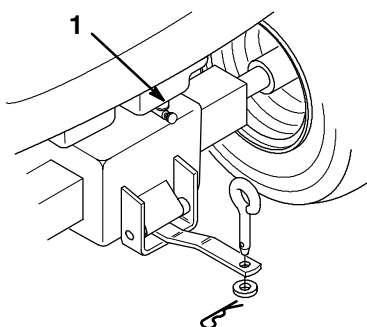

Figure 32
2. Close fuel shut-off valve at fuel tank (Fig. 32).